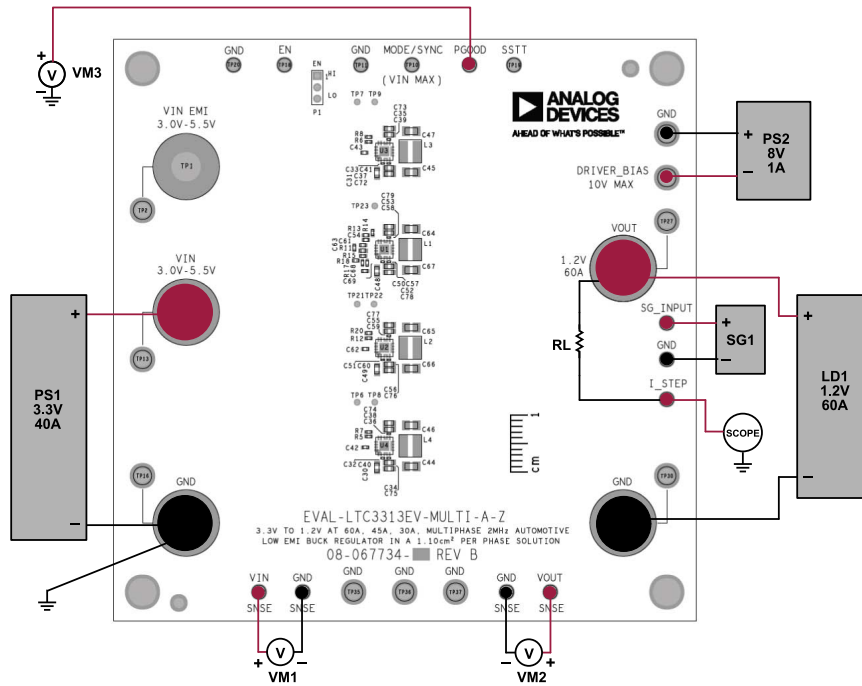

Figure 5. Test Setup for EVAL-LTC3313EV-MULTI-AZ
Before following the quick start procedure, note that for accurate  $V_{IN}$ ,  $V_{OUT}$ , and efficiency measurements, measure  $V_{IN}$  at the VIN SNSE and GND SNSE turrets, and measure  $V_{OUT}$  at the VOUT SNSE and GND SNSE turrets, which are illustrated as VM1 and VM2 in Figure 5. In addition, when measuring the input or output ripple, avoid a long ground lead on the oscilloscope probe.
Refer to Figure 5 for proper measurement equipment test setup and take the following steps:
11. To test the transient response with a base load, add the desired resistor to produce a minimum load between VOUT and I\_STEP turrets (RL shown on Figure 5). Note that the total load resistance is RL plus 10 m $\Omega$  from R1 and R2. The EVAL-LTC3313EV-MULTI-AZ uses a buffered signal generator input to drive a source follower circuit and to control the slew rate and amplitude of the current transient. The source follower FET (Q1) operates in the linear region during the load step.